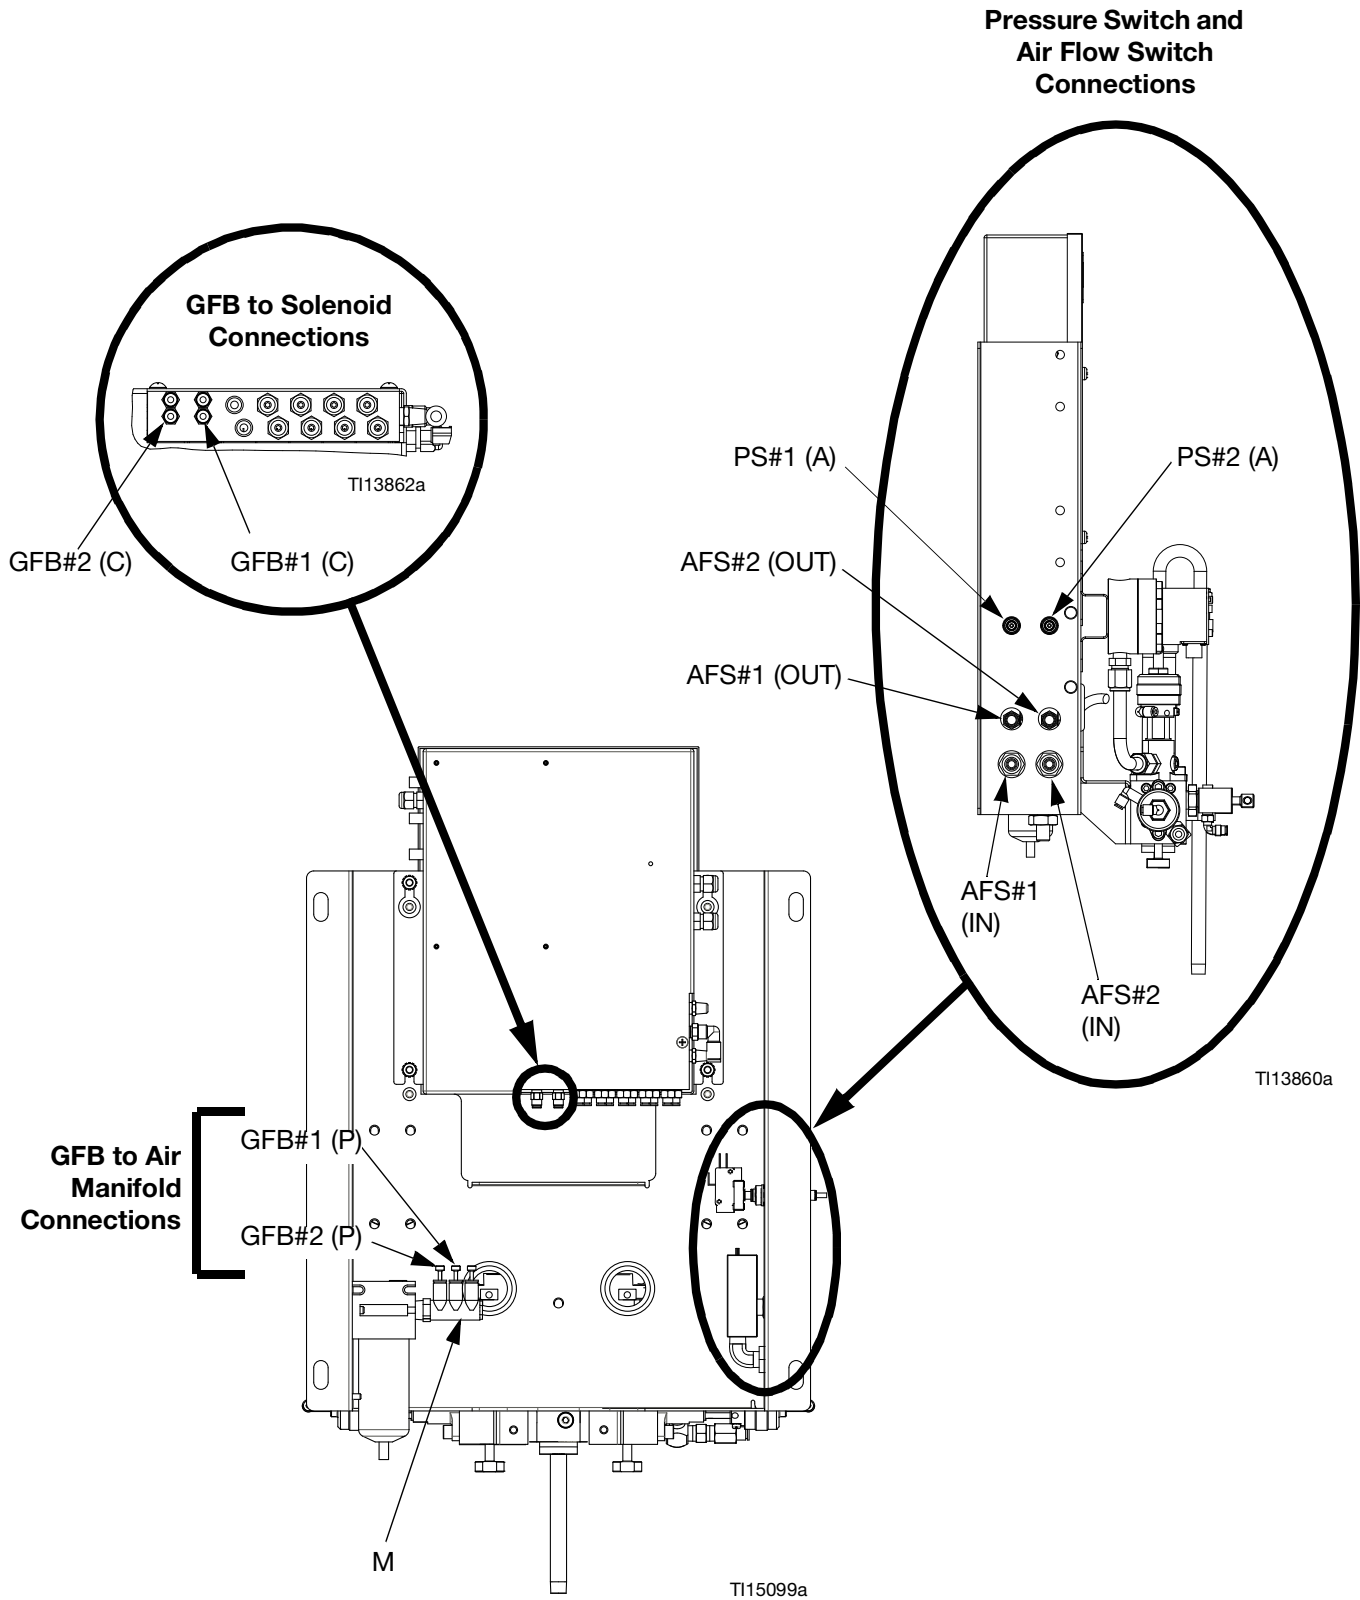

FIG. 12: GFB Solenoid, Air Manifold, Pressure Switch, and Air Flow Switch Connections (ProMix 2KS shown)
1. From the **P** fitting to the air supply manifold (M, FIG. 12). Use a clean, dry air supply (filtered to 10 microns).
2. From the **A** fitting to the pressure switch air input (PS, FIG. 12).
3. From the **C** fitting to the gun flush box solenoid (GFB, FIG. 12) output.